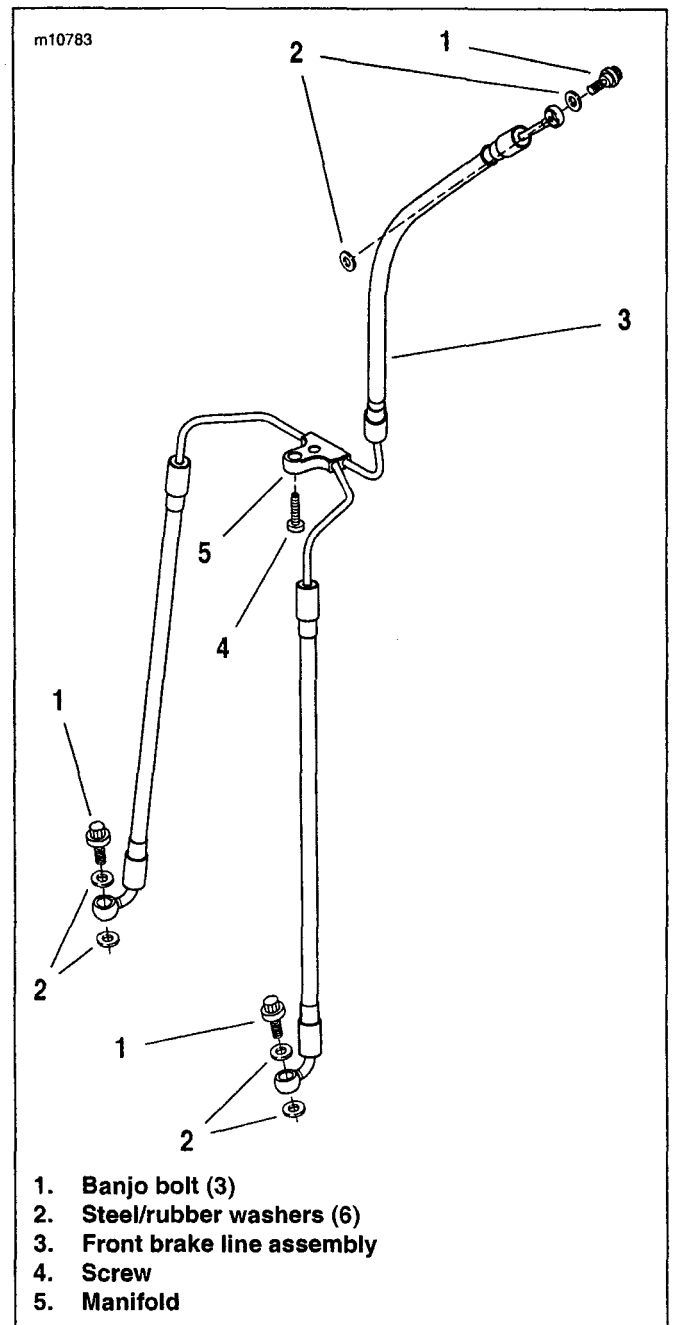

Figure 4. Front Brake Line Assembly
6. See Figure 4. Remove banjo bolt (1) to disconnect front brake line fitting from left front brake caliper. Immediately wrap fitting with piece of shop towel to prevent leakage of any residual brake fluid. Discard steel/rubber washers. Repeat step to release front brake line from right front brake caliper.
9. Remove screw (4) at bottom of chrome fork bracket cover to release both cover and front brake line manifold (5).
2. See Figure 4. Align larger hole in front brake line manifold (5) with threaded boss at bottom of lower fork bracket.
3. With the concave side up, align hole at bottom of chrome fork bracket cover with larger hole in front brake line manifold. Install screw (4) into threaded boss. Do not tighten screw at this time.
5. Install banjo bolts (1) with **new** steel/rubber washers (2) to secure front brake line fittings to both left and right front brake calipers. Do not tighten bolts at this time.